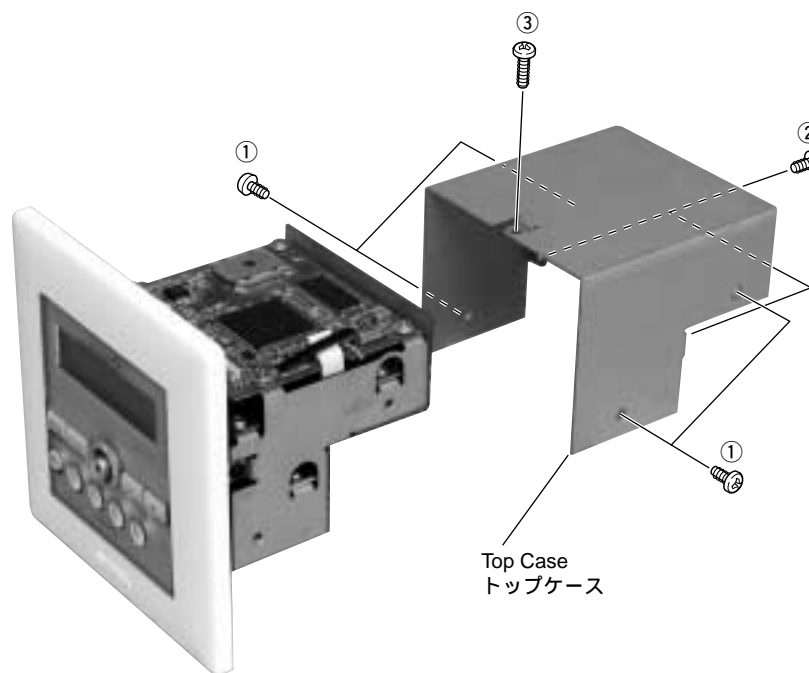

Fig. 1
- a) Remove 4 screws marked [①], 2 screws marked [②] and 1 screw marked [③]. (Fig. 1)
- b) Remove the Top Case by sliding it rearward. (Fig. 1)
- a) ①のネジ4本、②のネジ2本、③のネジ1本を外します。(Fig.1)
- b) トップケースを後方へスライドさせ、取り外します。(Fig.1)